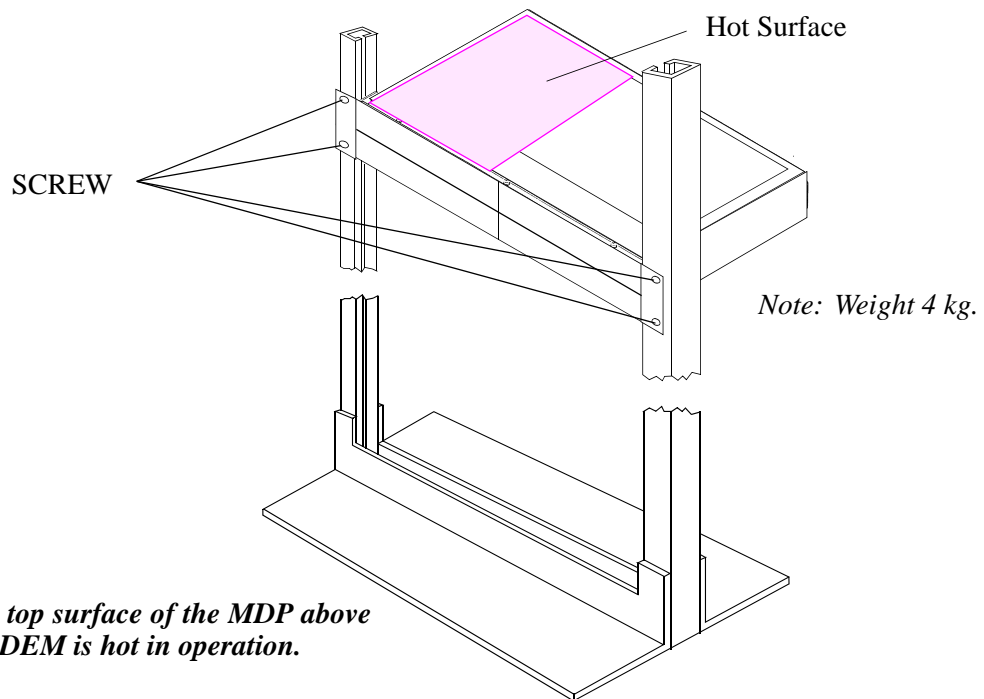

Fig. 5-13 Demounting and Remounting
- 3 As shown in Fig. 5-13, loosen four screws and remove the MDP.